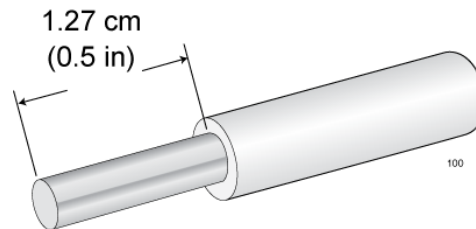

Figure 40. Stripping the Grounding Wire
1. Prepare an adequate length of stranded grounding wire (10 AWG) for the ground connection by stripping it as shown in Figure 40.